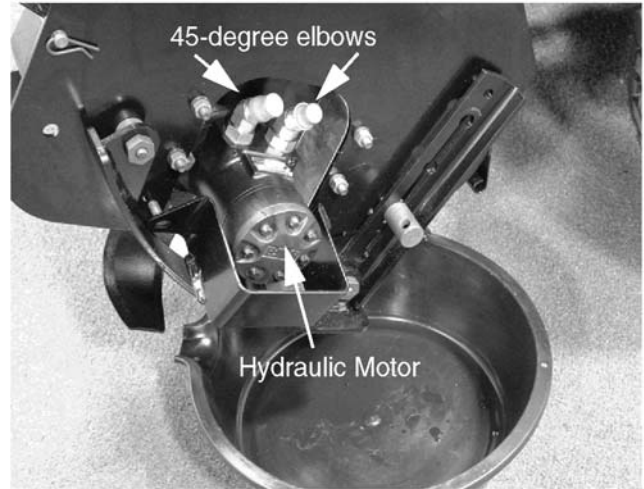

Figure 8-101.
6. Loosen the two 45-degree elbow fittings on the hydraulic motor using a 1" wrench. See Figure 8-101.